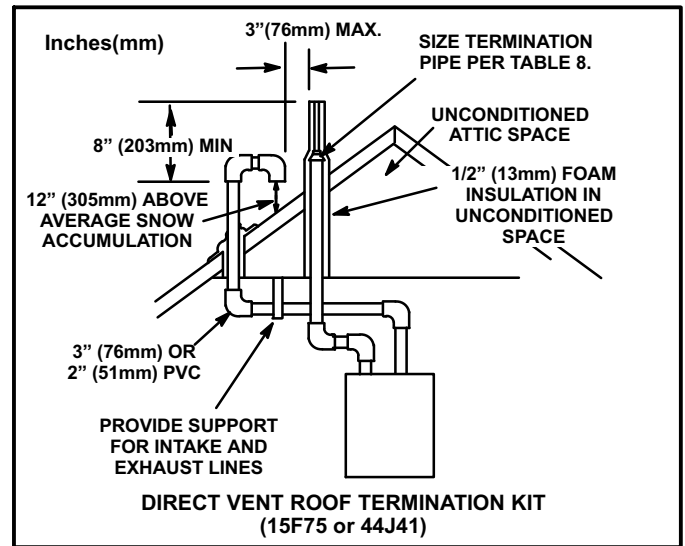

FIGURE 25
Intake and exhaust pipes may be routed either horizontally through an outside wall or vertically through the roof. In attic or closet installations, vertical termination through the roof is preferred. Figures 25 through 37 show typical terminations.
- 3 - On roof terminations, the intake piping should terminate straight down using two 90° elbows (See figure 25).